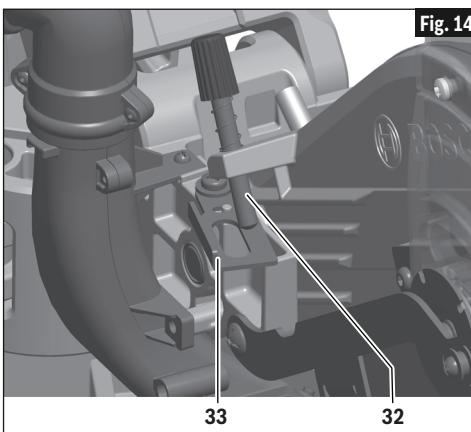

Fig. 14
2. Pull the depth stop plate out away from the saw head (see Fig. 14).